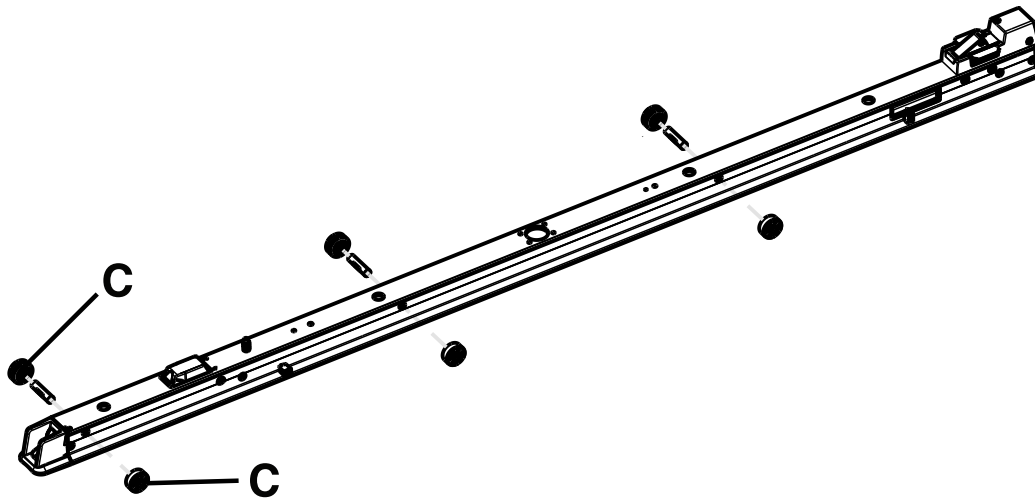

Figure 41 – Remove the flat roller assembly and V-guide roller assembly
7. Using a 1/4" hex wrench, remove the two screws (C) that secure the flat roller assembly and the V-guide roller assembly on the foot end of the anchor assembly (Figure 41). Save all parts.